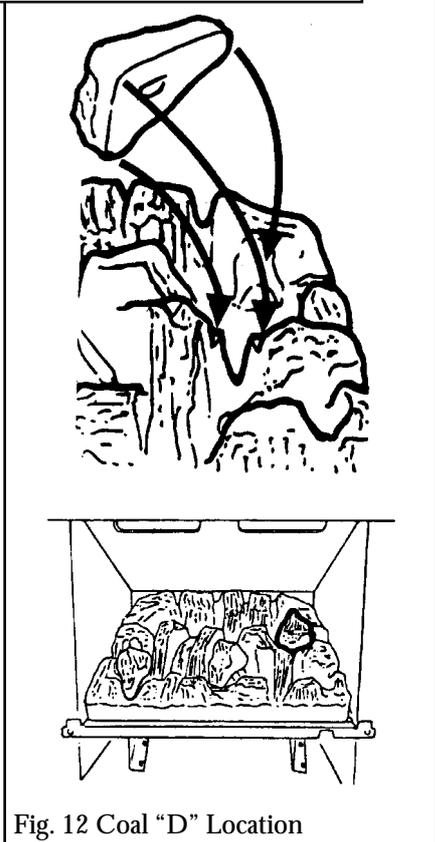

Fig. 12 Coal "D" Location
**10.1.4** Position the rear right coal (embossed "D" on its underside) in the well in the coal bed marked "D" - see figure 12. The pointed rear of the coal should rest on the ledge in the "V" cut-out at the rear of the well in the coal bed marked "D". The other two corners of the coal should rest on the ledges at the front and right side of the well in the coal bed.